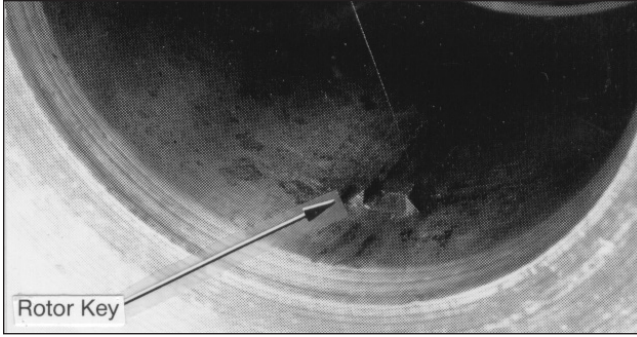

Figure 16
6. Assemble downstream stator. In a unidirectional turbine meter, the stator is positioned with the Woodruff key, Figure 16. In a bidirectional turbine meter, the stator is positioned with the deflector ring. Assemble shaft nut; refer to Step 2.